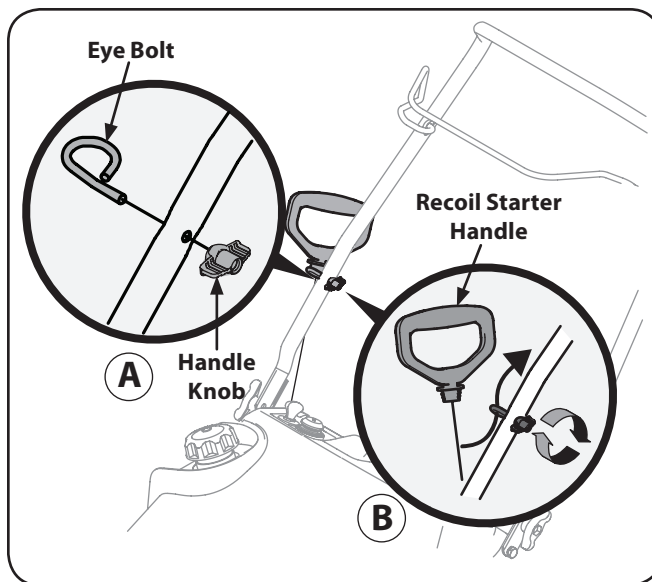

Figure 3-7
- Place the eye bolt and handle knob on the upper handle as shown in Fig. 3-7. Do not fully tighten the hardware until instructed to do so.
4. Slip the recoil starter rope into the eye bolt from the back of the snow thrower. See Fig. 3-7.